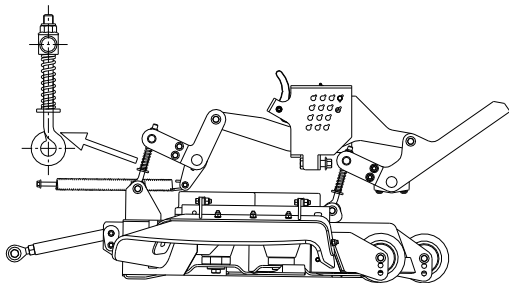

Fig. 13 Diagram of Deck Adjustment
- Raise the deck to the highest lock position, and raise the deck by loosening the bolts behind the springs on each side, with as little stress on the springs as possible; see Fig. 13